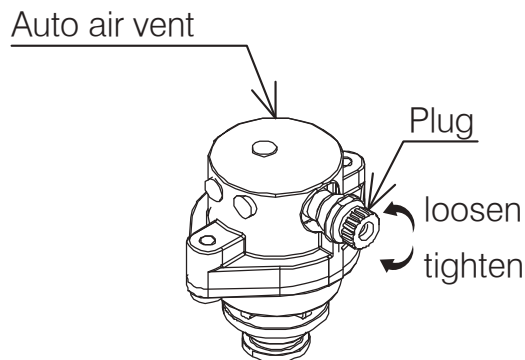

Figure 4-2: Auto Air Vent
3. Remove the top (HPID6R32) and front right (HPID10R32, HPID13R32 and HPID17R32) casing and loosen the plug on the automatic air vent located inside the heat pump. Refer to Figure 4-2.